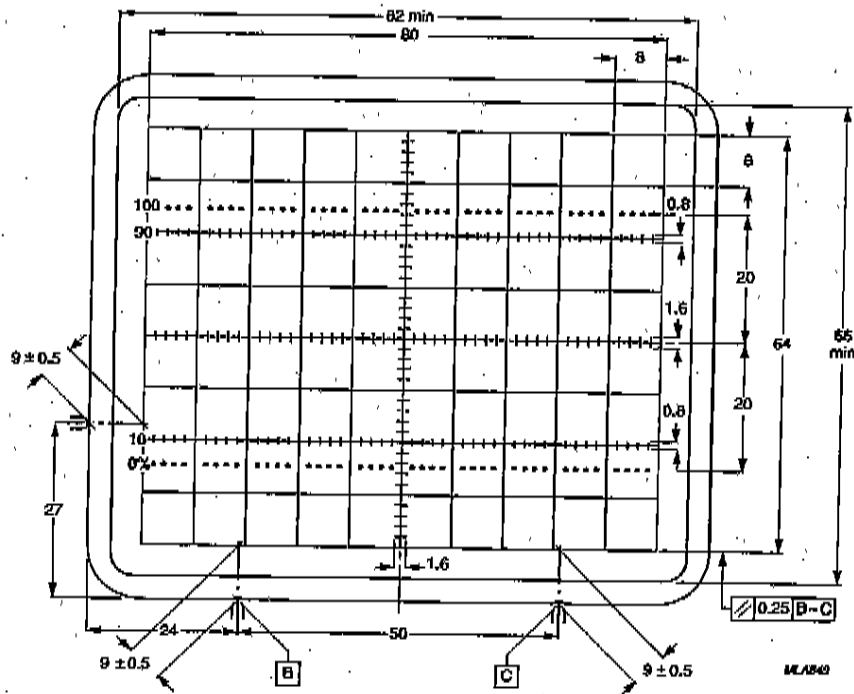

Fig.4 Front view of the tube with internal graticule, type 119.
The tube can be mounted in any position. It must not be supported by the socket and not by the base region alone. The reference points on adjoining edges of the faceplate (see Fig.4) enable the tube to be positioned accurately in the front panel, with optimum alignment of the internal graticule with respect to the bezel.
The internal graticule is aligned with the faceplate by using the faceplate reference points, see Fig.4 and note 1.
1. Because the frit seal is visible through the faceplate, and not necessarily aligned with the internal graticule, application of an external passe-partout with open area of max. 82 mm x 66 mm is recommended. The internal graticule is aligned with the faceplate by using the faceplate reference points (see Fig.4).